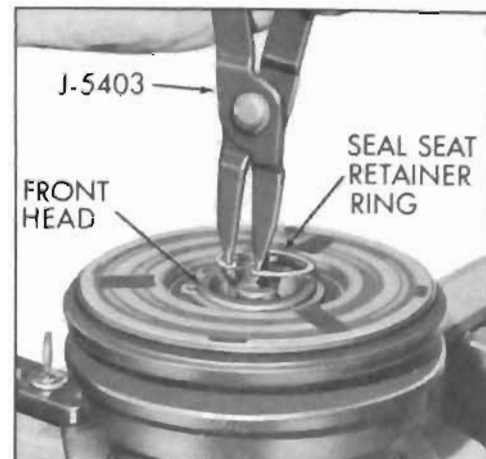

Figure 11-53—Removing or Installing Shaft Seal Seat Retaining Ring
5. Using No. 21 Truarc Pliers (J-5403) take out seal seat retainer ring (see Figure 11-53) from inside front head.
12. Using No. 21 Truarc Pliers (J-5403) reassemble seal seat retainer ring (flat side of retainer ring downward) into hub of front head and engage retainer ring in ring groove (see Figure 11-53). If necessary, retainer ring may be